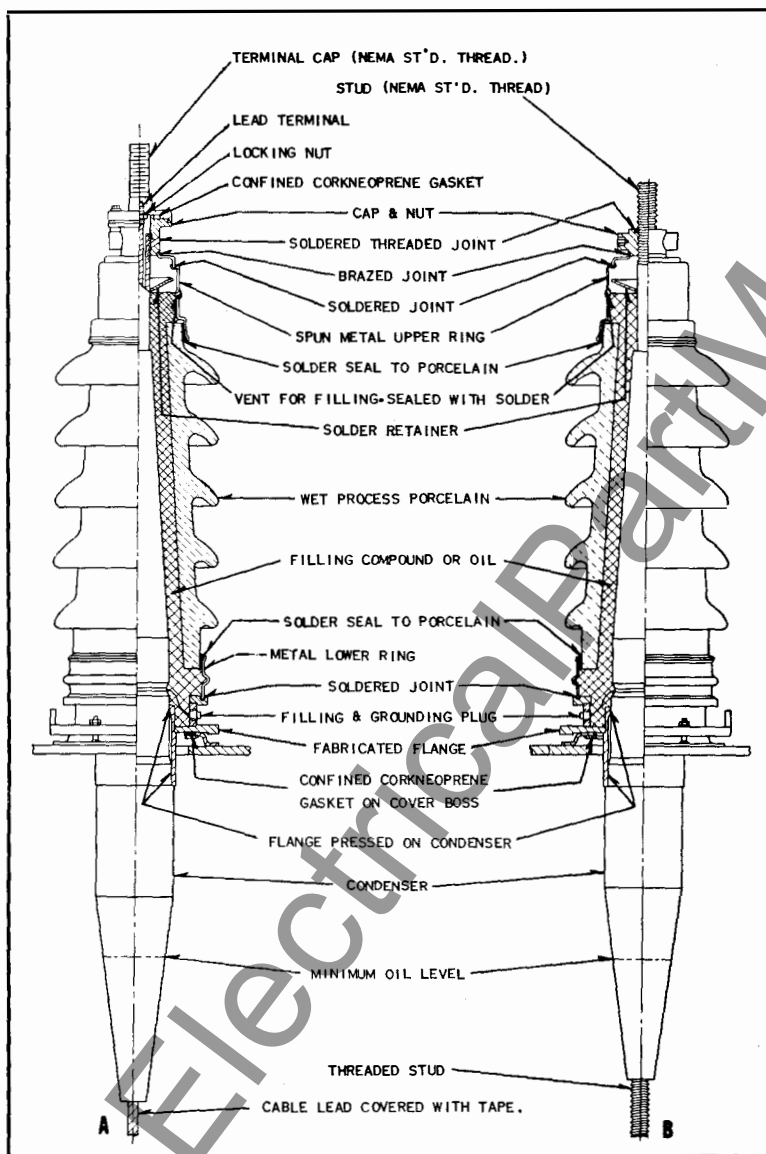

FIG. 1. Sectional View—(A) Bushing with Draw-Through Cable Lead;
**TYPE "S" AND "OS" CONDENSER BUSHINGS** are designed for transformer applications. Each bushing (See Figure 1) consists principally of a cylindrical condenser, protected on its outer end with a porcelain weather casing made by the wet-
The condenser consists of a central copper tube or stud upon which specially treated kraft paper is wound under heat and pressure. At specified diameters, metal foil is inserted to form condensers. By proportioning the lengths and thicknesses of the paper layers, a series of equal capacity condensers, uniformly arranged along the length of the bushing, is formed between the central conductor and the outermost layer of metal foil which is connected to the grounded flange. When the current carrying capacity of the bushing does not exceed 400 amperes, the condenser is wound on a copper tube and the lead is drawn through from the transformer winding and attached to the terminal cap of the bushing. See A, Figure 1.
Bushings with draw-through cable leads (See A, Figure 1) should be installed carefully to prevent bends or kinks in the cable which will prevent pulling the lead to its correct length and make it appear to be too short. Bushings are installed and leads cut to correct length and installed before the transformer is tested at the factory. When bushings are removed for shipment the leads are coiled and tied securely to the under side of the blind flange covering the bushing hole or to some convenient place on the under side of the cover easily accessible through the bushing hole. Attached to the cable is a threaded terminal which has a hole in the end to permit pulling the lead through the bushing with a stout cord. The cable should be pulled taut to remove all the slack as the bushing is lowered over it into position. A second hole in the threaded terminal  $1\frac{1}{4}$  inches from its end permits holding the terminal and attached lead at the top of the bushing by means of a small screw driver or drift pin while the cord is removed and the gasket, lock nut, and terminal cap are assembled and locked in place. Finally the gasket is compressed as the terminal cap is bolted to the cap nut. Sufficient slack remains in the lead to prevent mechanical stresses in the bushing or in the connection to the transformer coil.